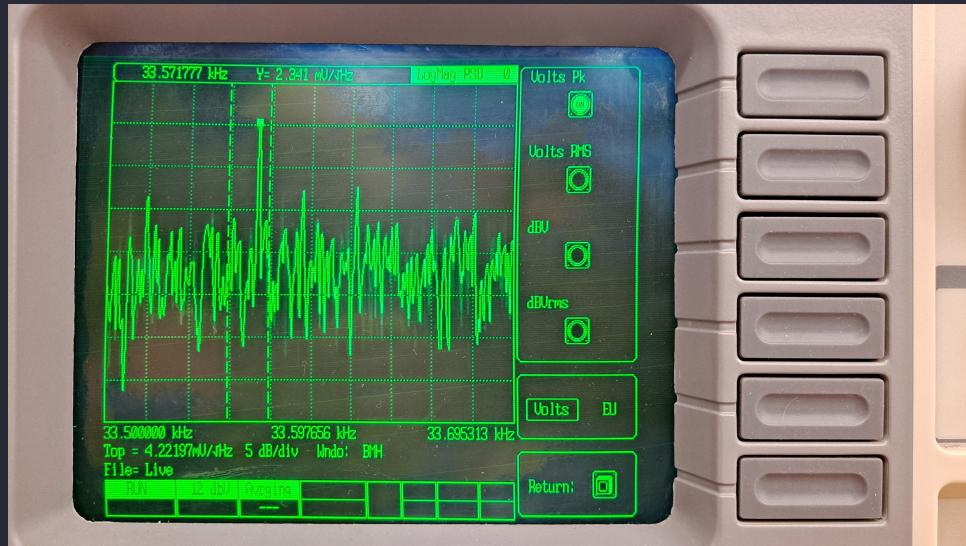

Figure 1.14: 770 View for BT Signal C
**Summary** From Fig. 1.14 We had to pan through the full range of the 770 at  $100/2^6 = 1.5625$  kHz to find the peak at 33.57 kHz. This means that we had to decrease the span 6 times to find the peak, and comb through each  $\tilde{1}$ .5 kHz range and wait for the 770 to acquire  $n$  average each time. Since the 770 cannot analyze the full span at small frequency ranges all at once, we had to manually pan through the full range for each iteration. Finally, we chose not to look for Signal D as it was only limited by the time it would have taken to pan through the full range of the 770 at even smaller frequency ranges and larger averaging.